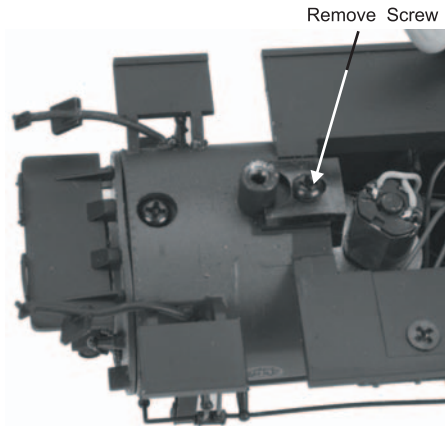

Figure 10
2. Remove the screw attaching the smokebox front and pull the smokebox front from the boiler shell. (Fig 10)